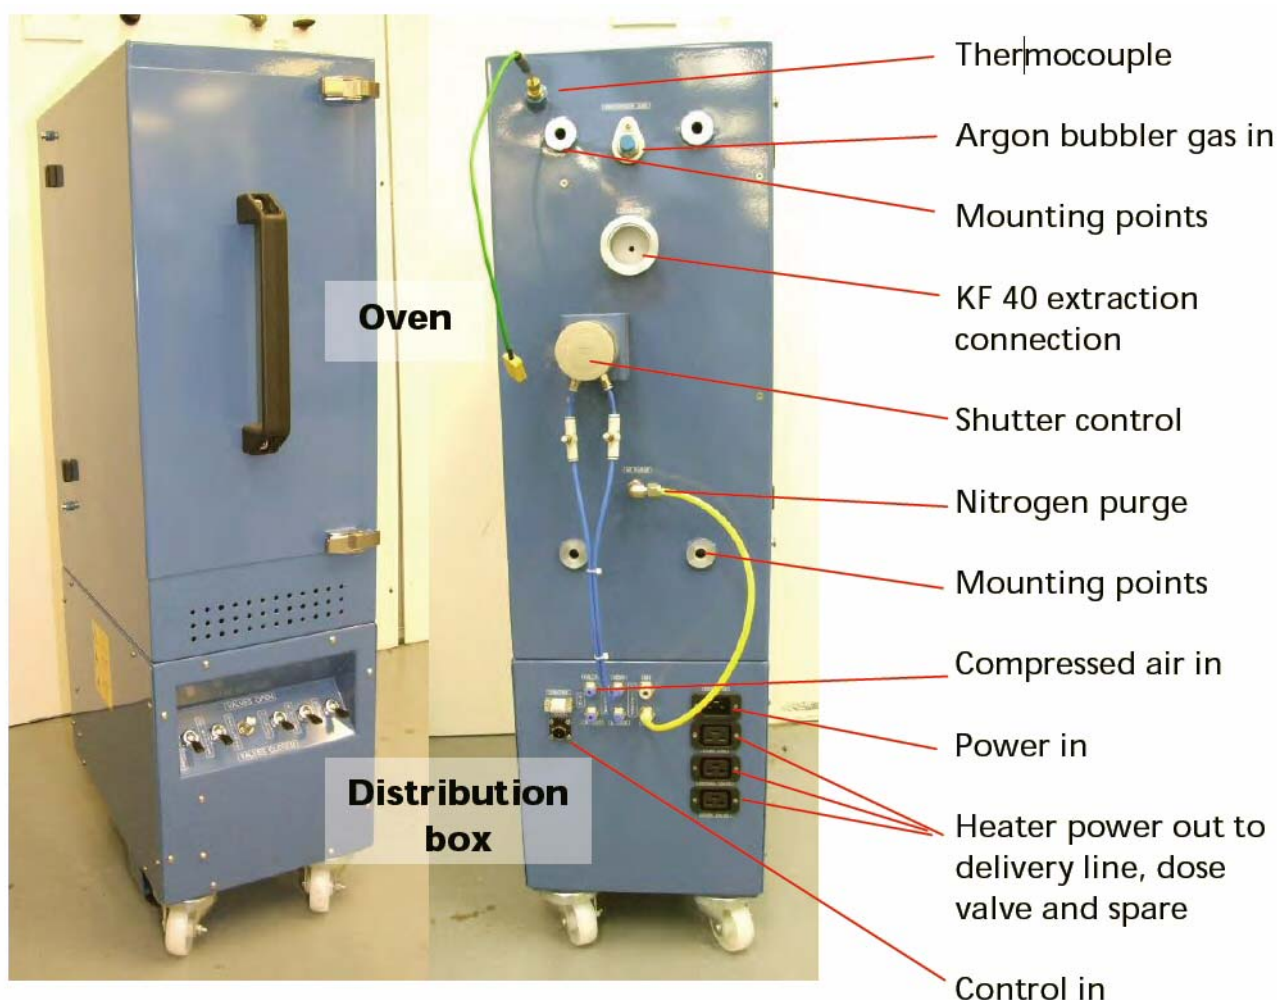

Figure 2-27 View of single-precursor oven
- a lower module known as the *distribution box* (see Figure 2-27).